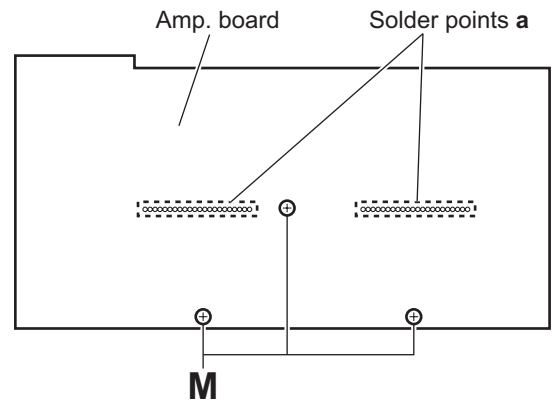

Fig.12
- (3) From the reverse side of the amp. board, remove the three screws **M** attaching the heat sink to the amp. board. (See Fig.12)
- (4) Take out the heat sink.
(See Fig. 12)